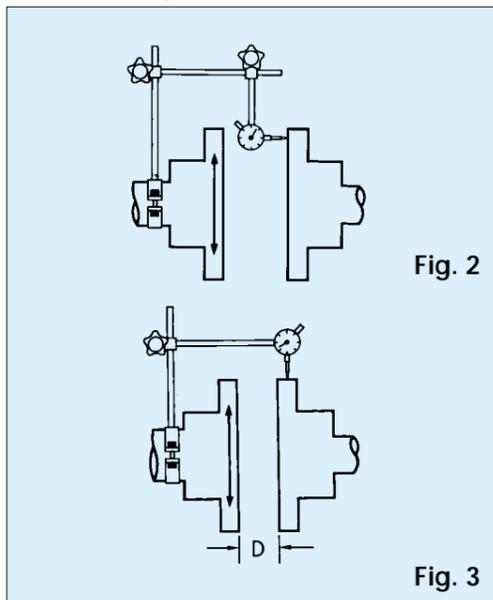

Fig. 2
3. Angular misalignment (Fig.2)